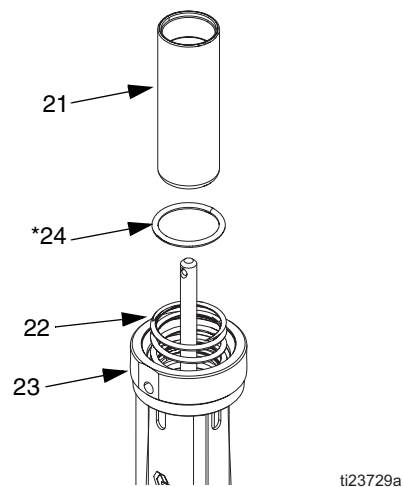

FIG. 16
7. Slide air piston (21) out the top of the air motor base (23). Remove o-ring (24*) from air motor base. Inspect all parts, including the spring (22) in the air motor base, for damage. See FIG. 16.